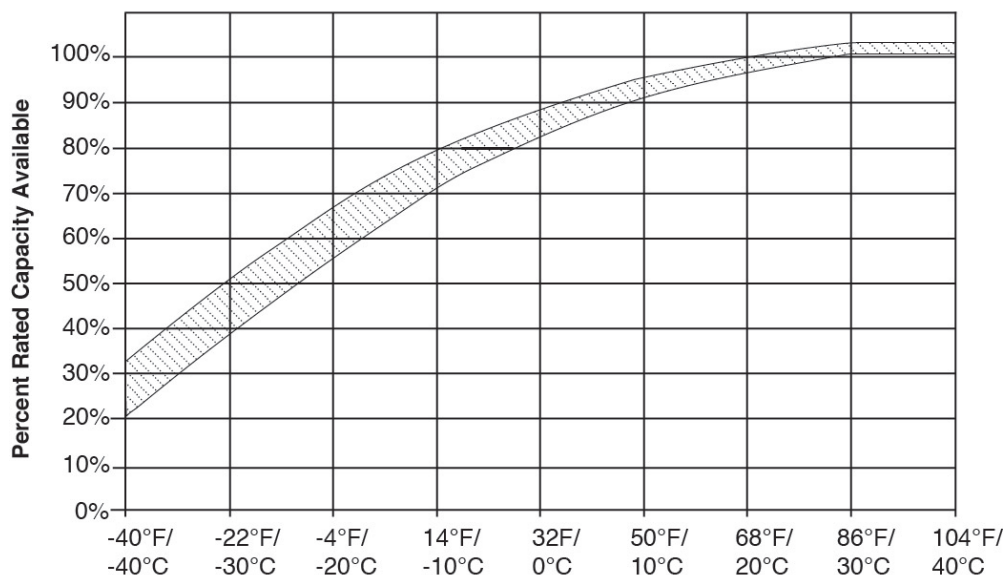

Fig. 1-4, Estimated Available Capacity vs. Battery Temperature
- As batteries get colder, the available capacity is reduced. This is related to the kinetics of the electrochemical reactions and the resistivity of the electrolyte (See Fig. 1-4).